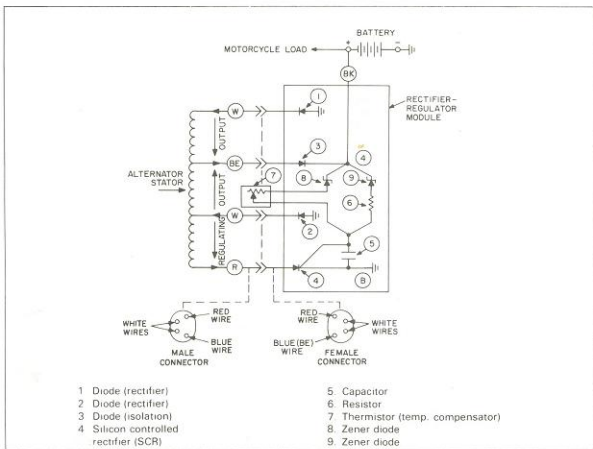

Figure 5-8. Charging System - Schematic Diagram
OPERATION (Figure 5-8)
The alternator consists of two main components: the rotor (magnetic field) which is mounted on the engine sprocket shaft, and the stator (armature) which is bolted to the engine crankcase. See Figure 5-8.
The stator consists of twelve (12) coils, each wound over a laminated iron core. The coils are positioned radially around the engine crankshaft and bolted to the outside of the engine crankcase. See Figure 5-8.